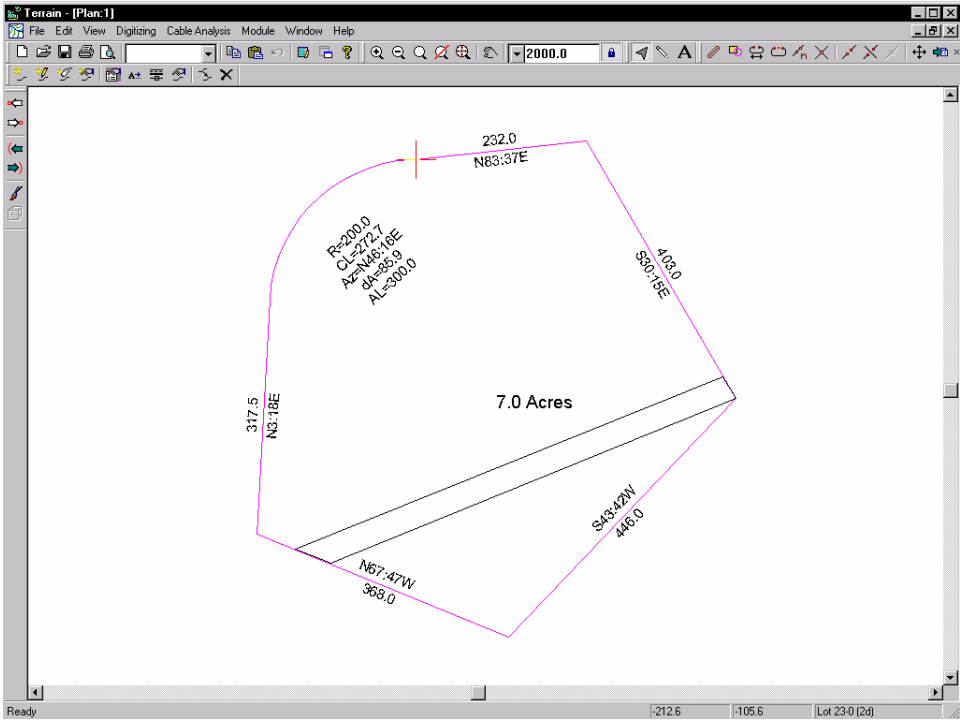

Figure 6.5: Annotated Lot Boundary and Easement
17. Edit | Modify Selected Feature(s) | Labels. Turn on *Azimuth*, *Horizontal Distance*, *Curve Radius* and *Area* labels (double click on the appropriate item in the list-box). Press OK. The selected feature labels are now displayed in the Plan Window (Figure 6.5).